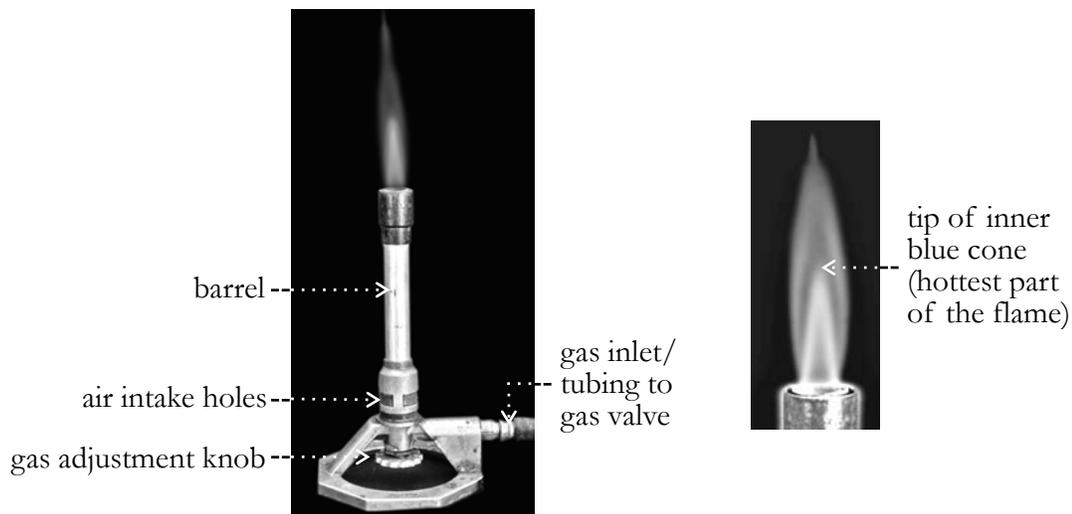
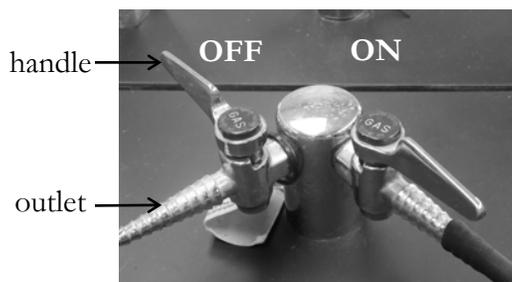

Figure 1. The Bunsen burner
Figure 2. The gas valve
1. Figures 1 and 2 show a Bunsen burner and a bench gas valve, respectively. Connect the rubber tubing from the gas inlet of the Bunsen burner to the outlet of the bench gas valve. Make sure the gas valve is off, with the handle of the valve perpendicular to the outlet, as shown in the gas valve on the left in Figure 2. The gas valve should always be off when the burner is not lighted.
3. Turn the bench gas valve on by rotating the handle so it is parallel to the outlet as shown in the gas valve on the right in Figure 2.
6. Rotate the barrel to open the air intake holes to intensify the flame and change its colour to blue. Continue to increase the air flow until you see a second blue cone appears at the center of the flame. The hottest part of the flame is the tip of the inner blue cone (see Figure 1).